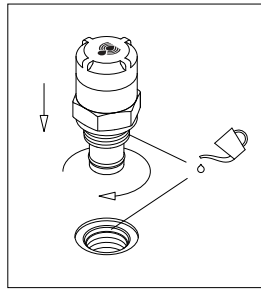

fig. 7
- (Fig. 7) Lubricate with the operating fluid the thread and the O-ring of the indicator body, then screw the indicator body in referring to the tightening torque table in paragraph 3